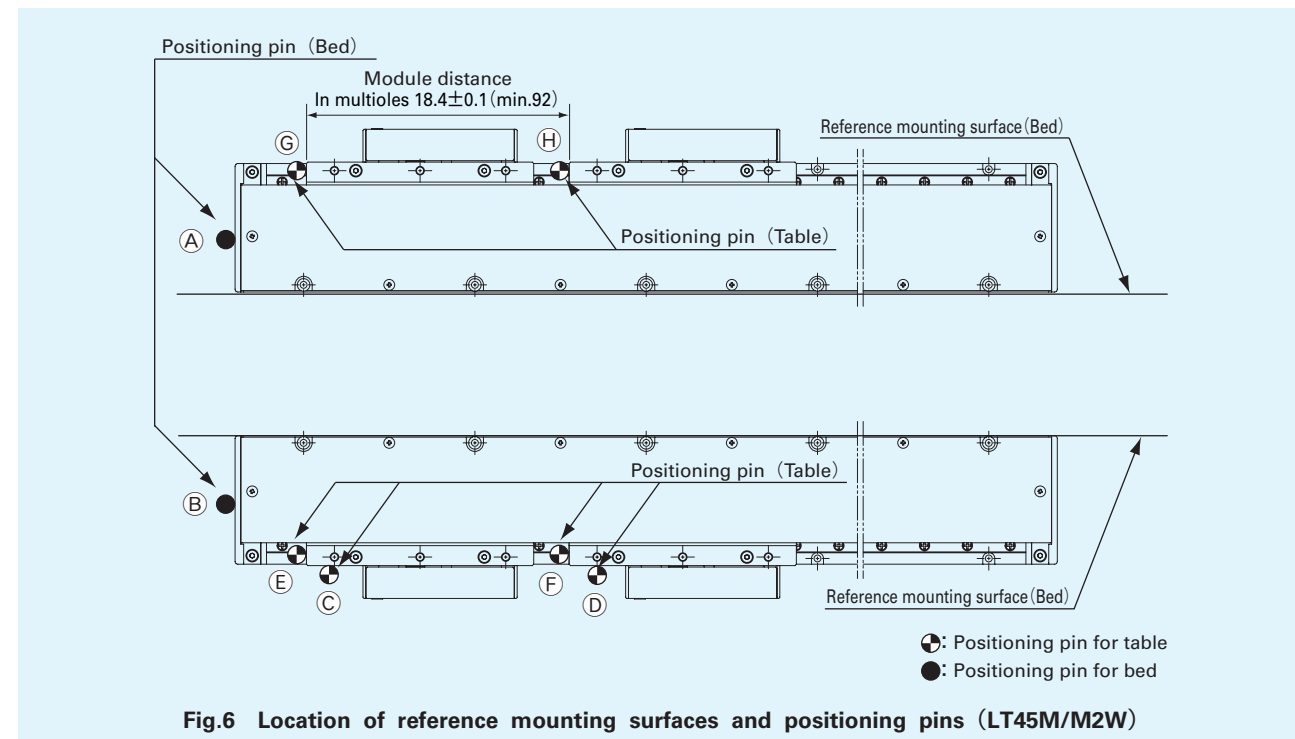

Fig.6 Location of reference mounting surfaces and positioning pins (LT45M/M2W)
- ◆When designing a system of a twin-modules specification, the distance between modules along the stroke should be 92 mm minimum or a sum of 92 mm plus a multiple of 18.4 mm. (See Figure 6.) If the other distances are used, motor poles are not aligned and the table cannot run. (This is applicable to supplemental code-"/M2" and "/M2W.")
①Preparation
- Mount the following reference mounting surface having a parallelism of 10μm on the base and mount positioning pins (A) and (B) as mounting references along the stroke. Mount two positioning pins (C) and (D) as mounting references and four positioning pins (E) to (H) as mounting references along the table stroke on the table. (Fig.6)